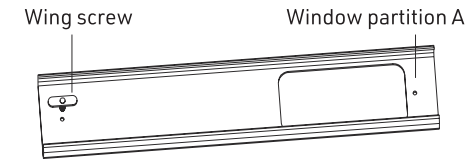

Figure. 1
- 2.) As shown in Figure 1, insert the wing screw into the hole of the window partition A;